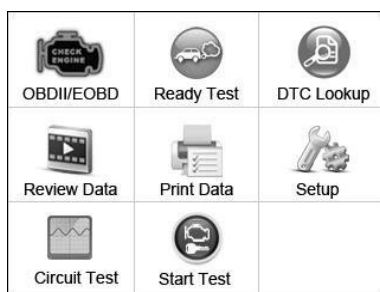

Figure 3.1
- 1) From **Main Screen** (Figure 3.1), use the **UP/DOWN** scroll button and **LEFT/RIGHT** scroll button to select **DTC Lookup** and press the **OK** button.